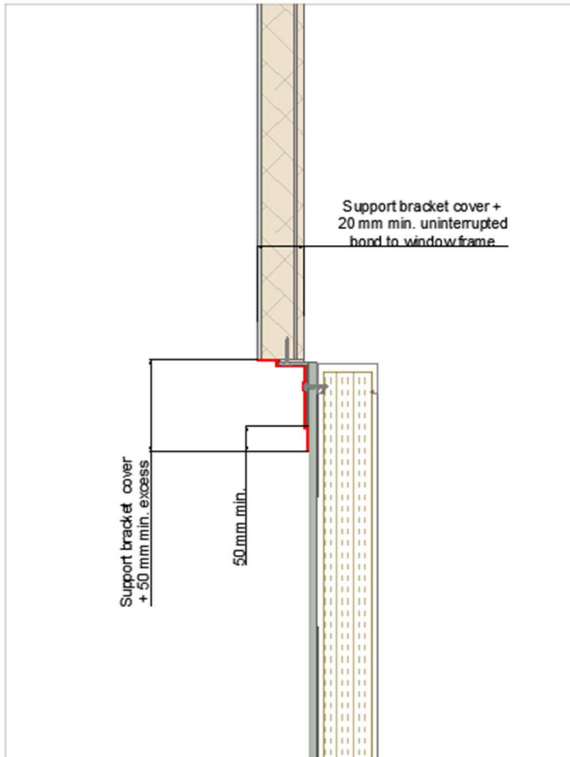

Figure 1
- At the sill the width of the membrane should be wide enough to cover the support brackets and with a 100 mm excess (minimum 50 mm) to enable bonding to the primary substrate on the trailing edge, with a minimum of 20 mm uninterrupted bond to the window frame. It is possible in some circumstances that the sill membrane may be wider than the head and jambs (Figure 1).